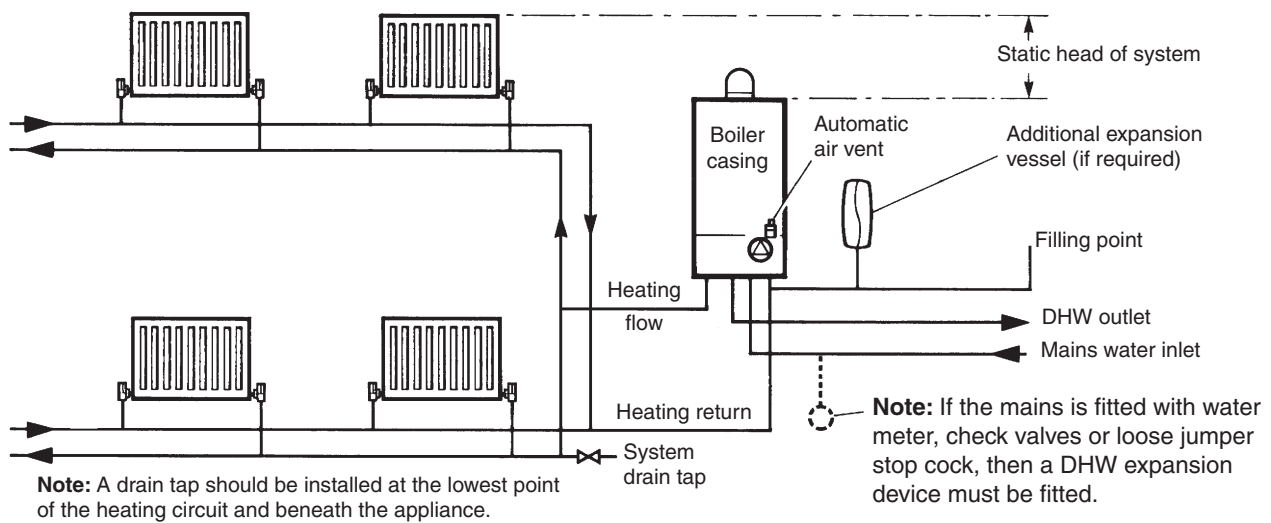

Fig. 3.5
3.7 CENTRAL HEATING SYSTEM - Fig. 3.5
The system design pressure (cold) should be set to 1.0 bar. This pressure is equivalent to a static head (see Fig. 3.5) of 10.2 metres of water.